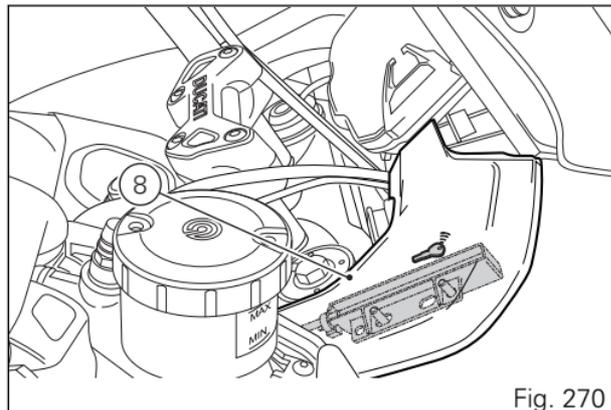

Fig. 270
(Fig. 268) indicates the position of the Hands Free unit (6), with protection lid (7) and (Fig. 269) indicates the position of the Hands Free unit (6) for the US version, while (Fig. 270) indicates the position of the antenna (8).